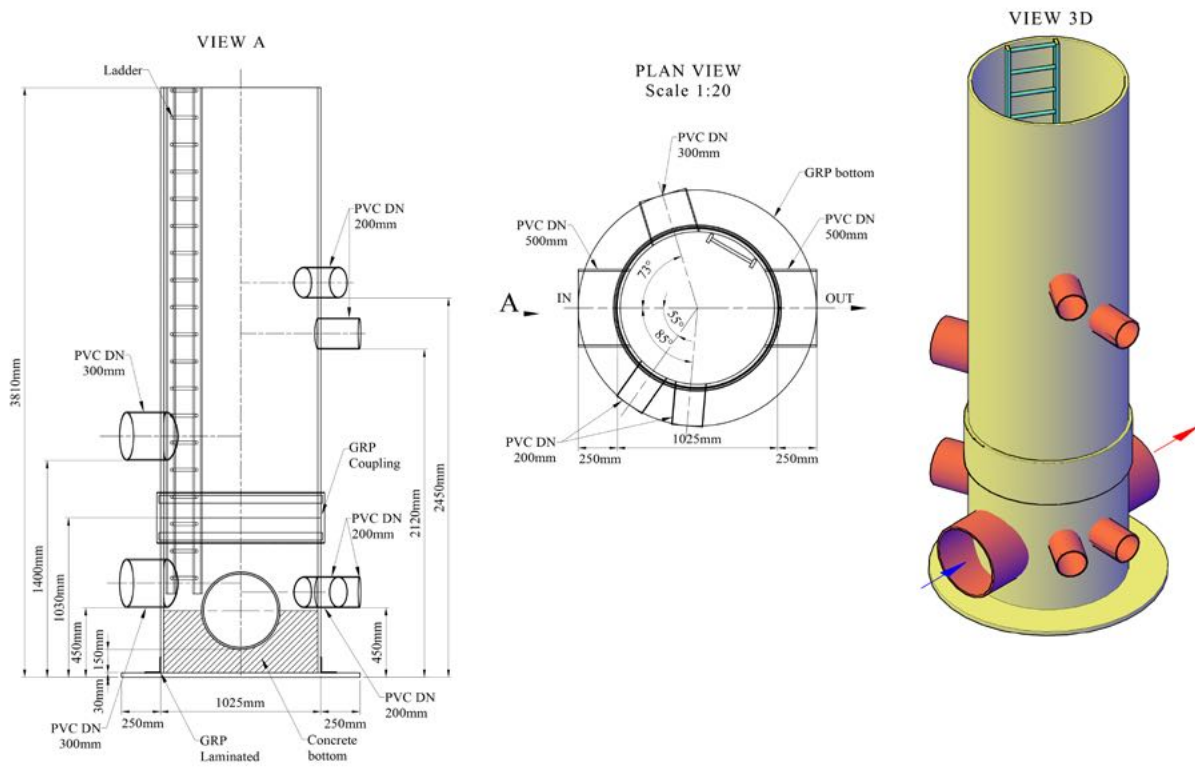
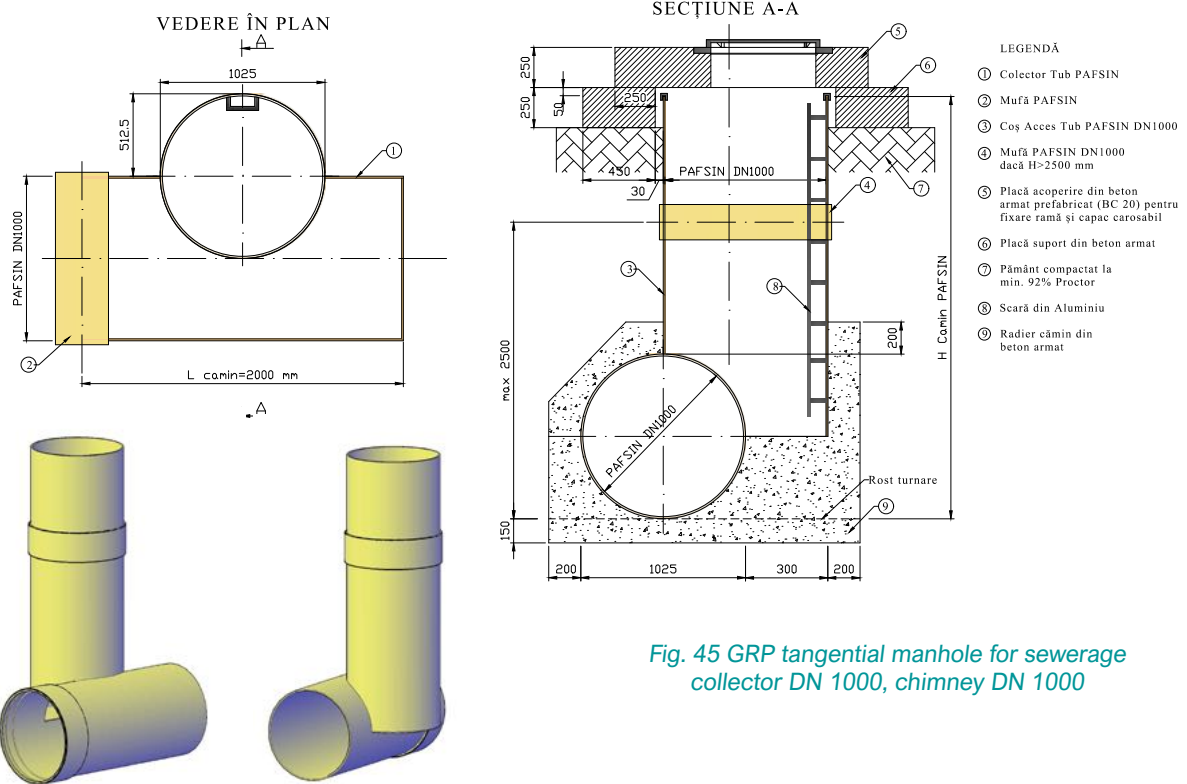

Fig. 43 Manhole DN 1000
Fig. 45 GRP tangential manhole for sewerage collector DN 1000, chimney DN 1000
- » waste water manholes (Fig. 43, Fig. 44 pg. 63 and Fig. 45 pg. 63)